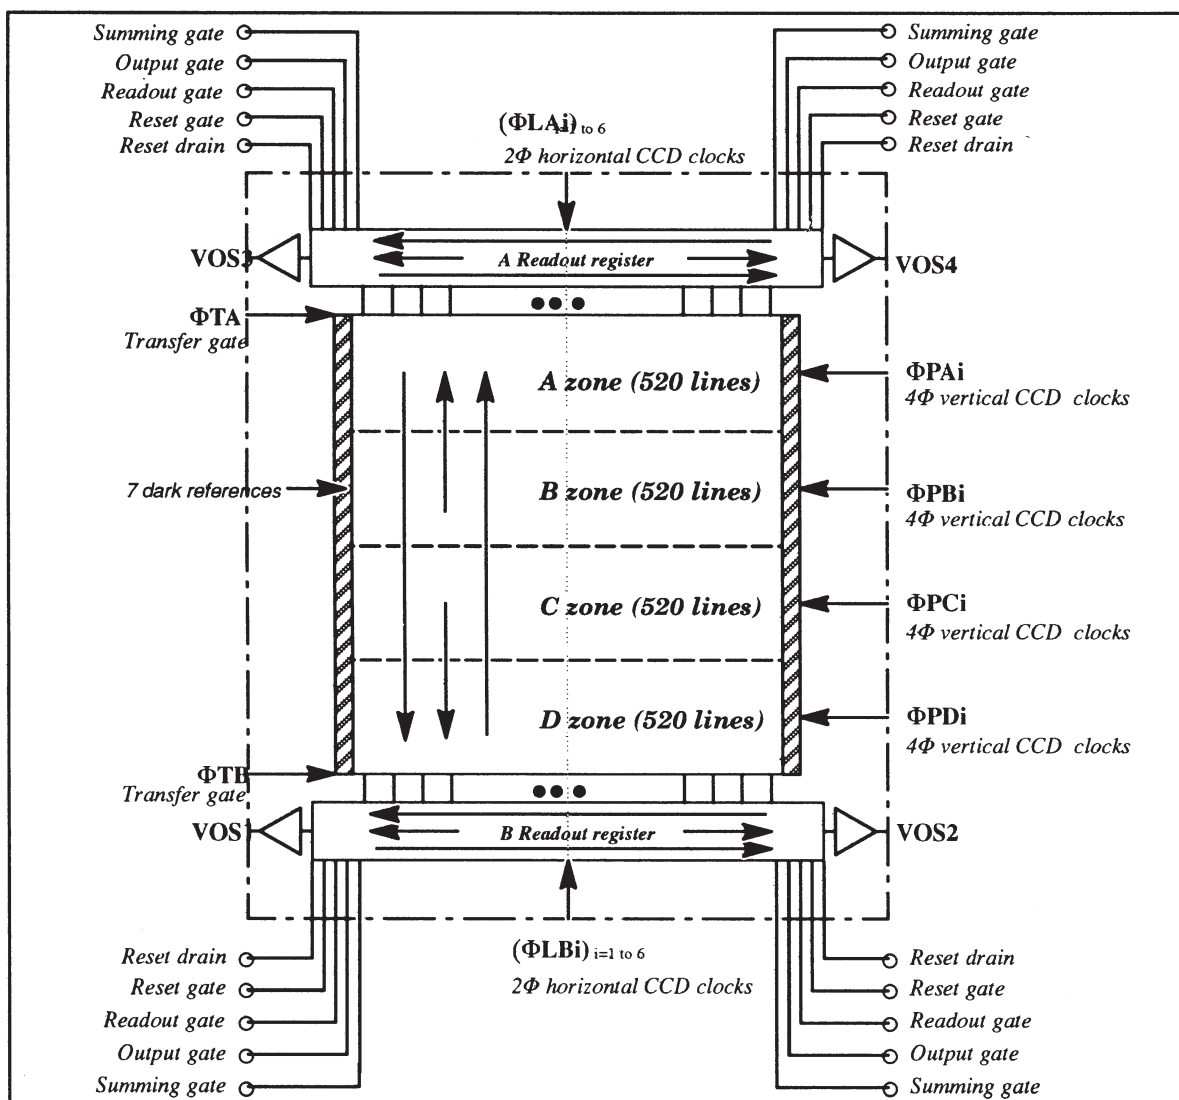

Figure 1 : TH7899M organization
1. General description (see figure 1)